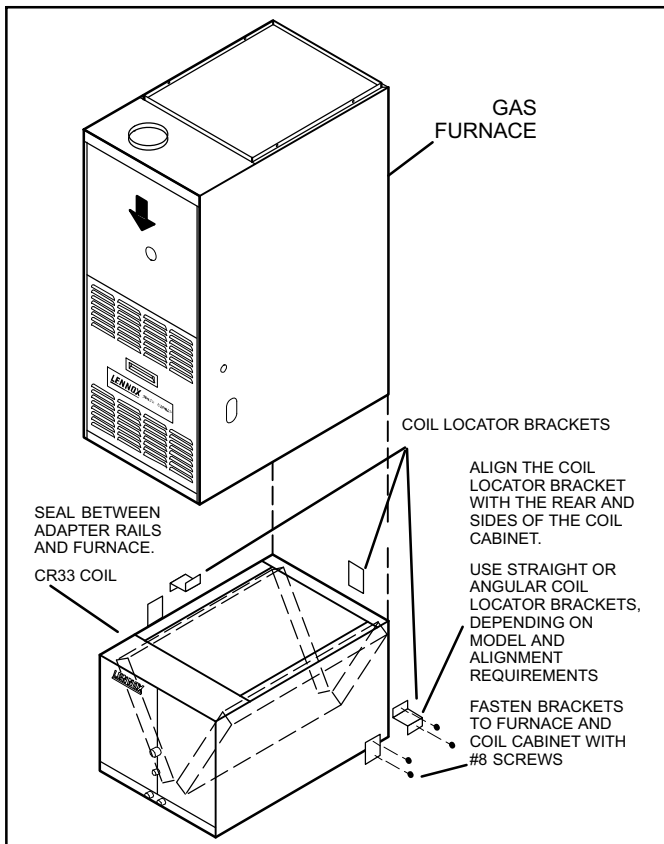

Figure 1. Gas Furnace and Coil
- 2. Coil Cabinet Width**—Install the provided coil locator brackets on the coil. Align the coil locator brackets with the rear and sides of the coil cabinet. Figure 1 illustrates how the furnace, coil and coil locator brackets fit together.